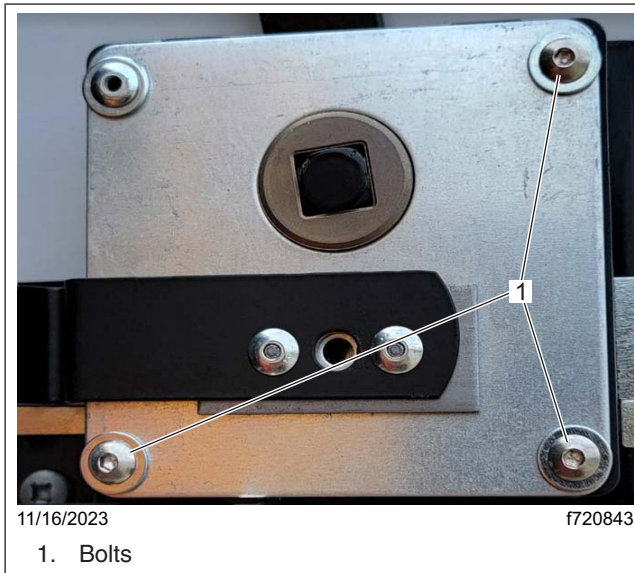
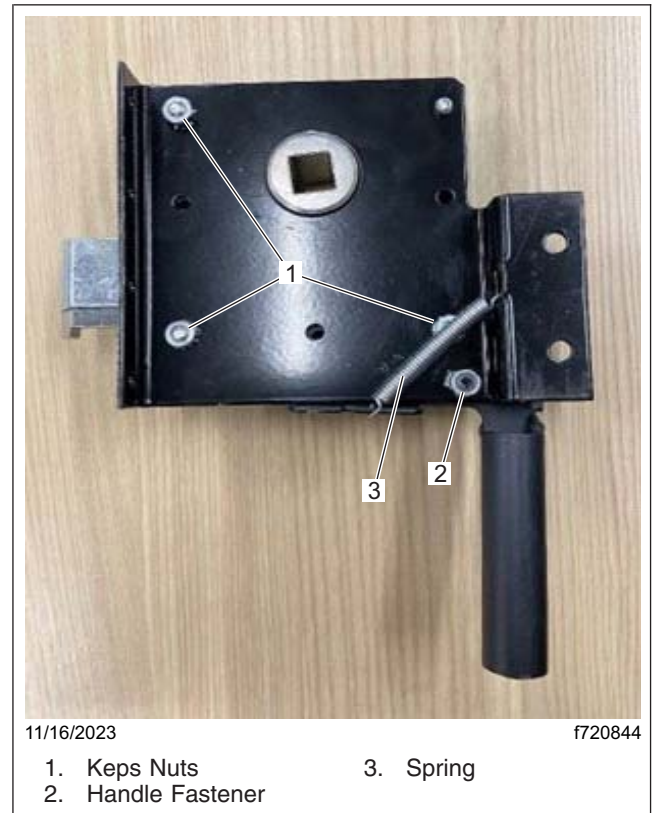

Fig. 2, Location of the Bolts
Fig. 3, Location of the Fasteners and Spring
6. The door latch mechanisms have three 10-24 x 3/8-inch attachment bolts as shown in **Fig. 2**, fastened with Keps nuts as shown in **Fig. 3**.
NO → The handle fastener may need to be adjusted, or the spring needs to be put back in place, if it was detached during the bolt tightening. See Fig. 3.